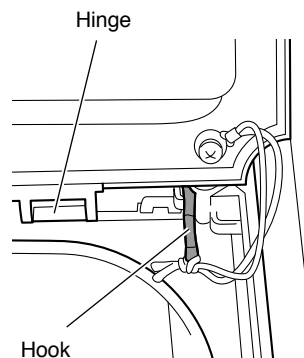

Fig.3
- (2) Undo the air intake grill drop preventive hook. (Fig. 3)